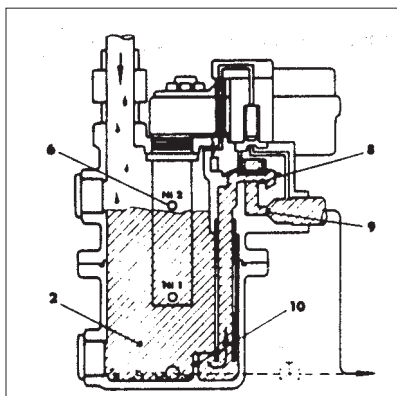

Fig. 4: Condensate discharge
Fig. 4 Once the container (2) has filled with condensate, so that the capacitive level sensor (6) emits a signal at the maximum point, the solenoid valve is reversed and the air above the valve diaphragm is expelled. The valve diaphragm lifts off the valve seat (8) and the over pressure in the housing forces the condensate into the discharge pipe (9).